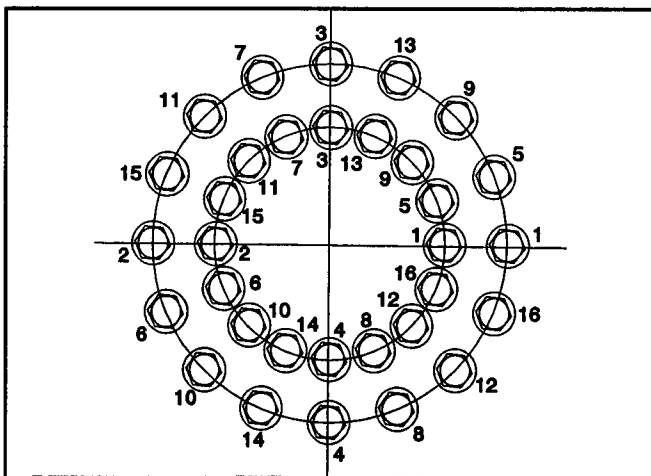

Figure 2-30. Swing Bearing Torquing Sequence.
- b. Line up high spot (blue) of bearing with center tooth of worm gear. Set backlash to 0.008 - 0.010 inch (0.20 - 0.25 mm). Tighten capscrews as shown in Figure 2-30.
- g. Following the torque sequence diagram shown in Figure 2-30, tighten the bolts to an initial torque of 175 ft. lbs. (237 Nm). Then, following the same sequence, tighten the bolts to a final torque of 240 ft. lbs. (326 Nm).
- l. Following the torque sequence shown in Figure 2-30, tighten the bolts to an initial torque of 175 ft. lbs. (237 Nm). Then following the same sequence, tighten the bolts to 240 ft. lbs (326 Nm).